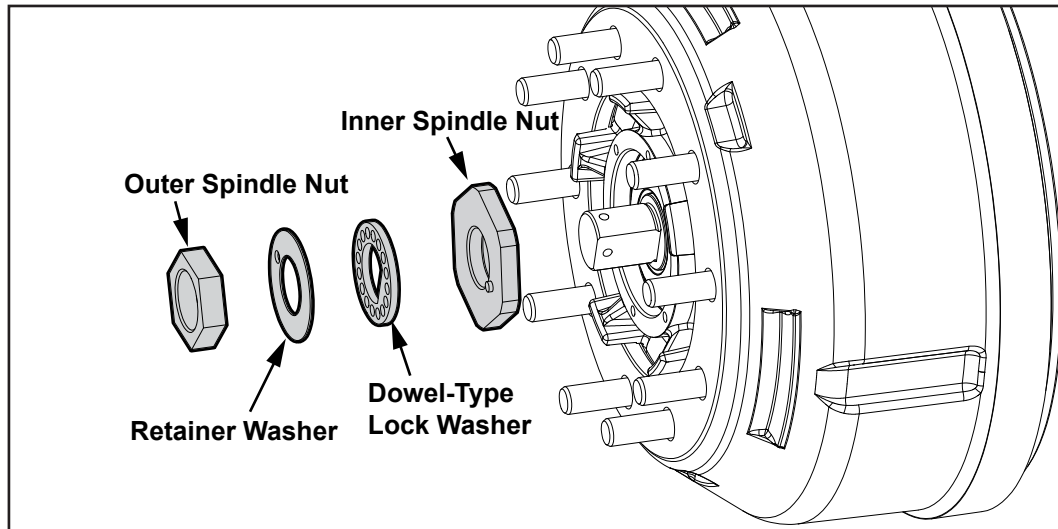

Figure 14
1. Remove the outer spindle nut, retainer washer and dowel-type lock washer and set aside for reinstallation (*see Figure 14*).
12. Bend two opposite sides of the retainer washer over two flat edges of the outer spindle nut (see Figure 14).